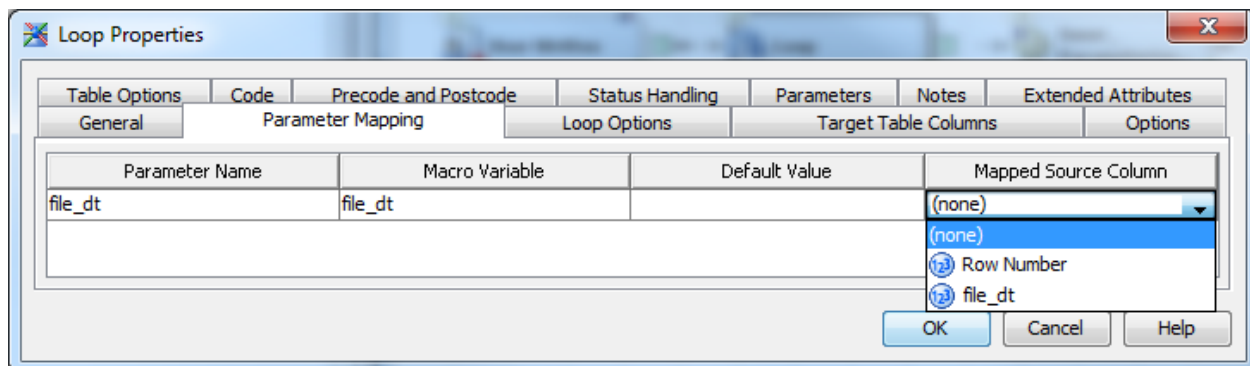

Figure 17. Loop transformation properties
4. Double click the Loop transformation to access its properties, click the Parameter Mapping tab shown in Figure 17. The Loop transformation is connected to both the user-written code node and the Inner_Parameterized_Job. By virtue of those connections, the Loop transformation knows the: